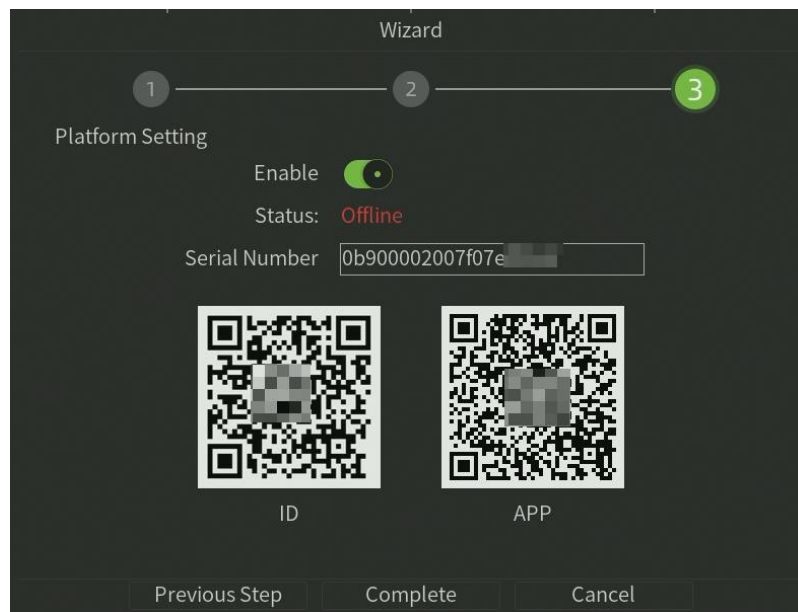

Figure 2.5 Platform Setting
- After the Network Setting, click **Next Step** button to enter the Platform Setting window, as shown in figure 2.5.